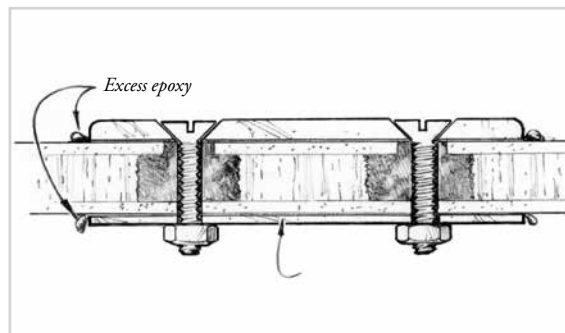

Figure 7-4 Tighten the nuts until epoxy begins to squeeze from the sides of hardware item and backing plate.
10. Place the backing plate over the bolts in position against the inner side of the panel. Tighten the nuts until epoxy begins to squeeze from the sides of the hardware item and backing plate (Figure 7-4). Do not over-tighten the fasteners. Clean away any squeezed out epoxy mixture with a chisel-shaped mixing stick and remove the masking before the epoxy begins to gel. Tighten the nuts completely after the epoxy cures thoroughly. Allow the epoxy to cure at least 24 hours before applying load to the hardware. Allow more time in cool weather.